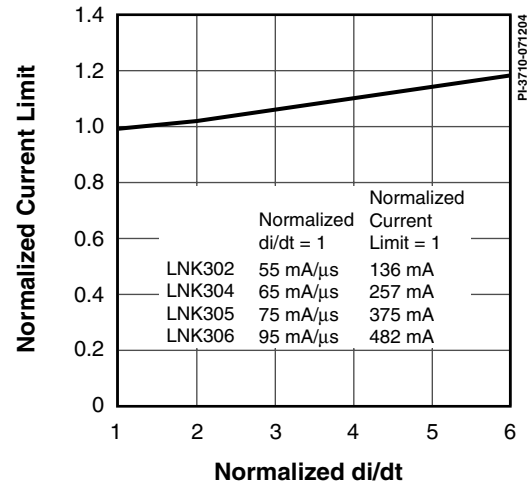

Figure 13. Current Limit vs.  $di/dt$ .
- For current limit at other di/dt values, refer to Figure 13.